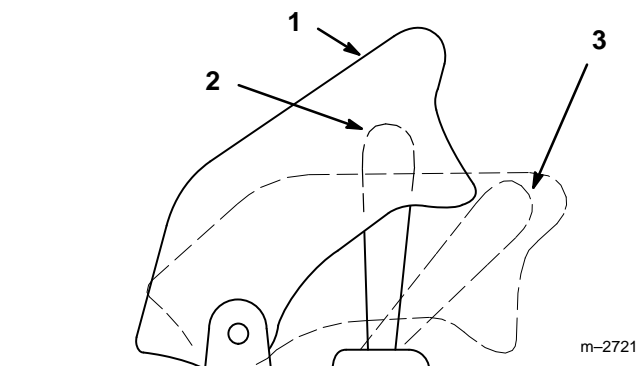

Figure 7
2. Raise the cover and move the power take off (PTO) switch to the “ON” position to engage (Fig. 7).
2. Lower the cover of the power take off (PTO) switch. This moves the switch to the “OFF” position to disengage (Fig. 7).